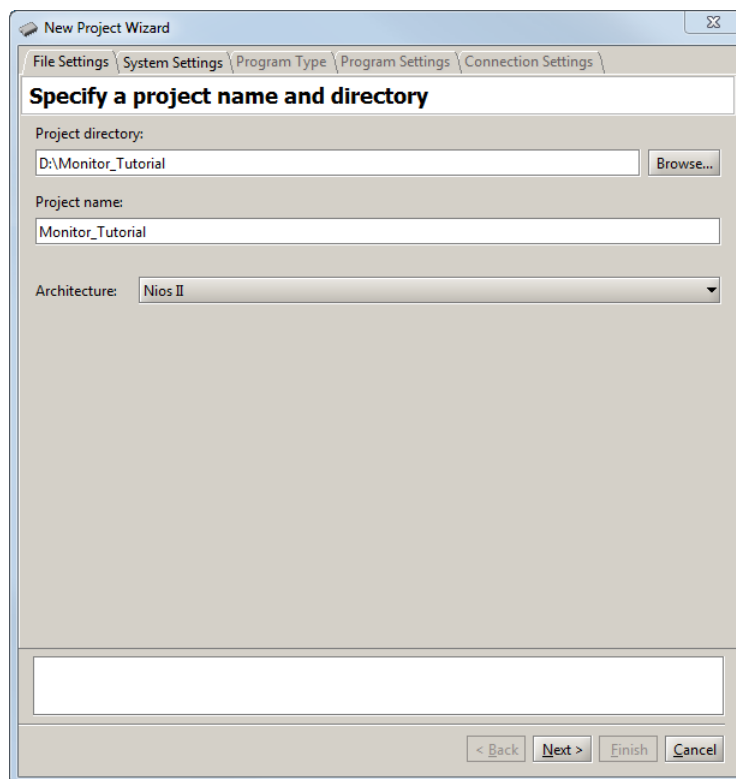

Figure 5. Specifying the project directory and name.
1. Select **File > New Project** to open the *New Project Wizard*, which leads to the screen in Figure 5. The Wizard presents a sequence of screens for defining a new project. Each screen includes a number of dialogs, as well as a message area at the bottom of the window. The message area is used to display error and information messages associated with the dialogs in the window. Double-clicking the mouse on an error message moves the cursor into the dialog box that contains the source of the error.
In Figure 5 we have specified the file system directory *D:\Monitor_Tutorial* and the project name *Monitor_Tutorial*. For simplicity, we have used a project name that matches the directory name, but this is not required.
The Monitor Program can be used with either an ARM-based system or a Nios II-based system. The choice of a processor is made in the window in Figure 5 in the box labeled Architecture. We have chosen the Nios II architecture for this tutorial.